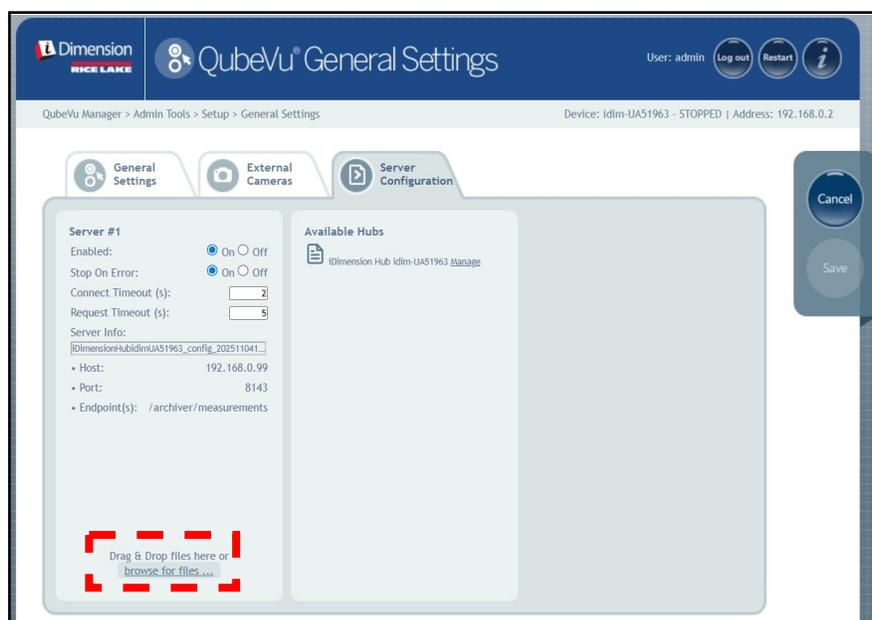

Figure 5-10. Server Configuration Tab
- Select **browse for files...** to pick server configuration file (see Figure 5-10 on page 29).